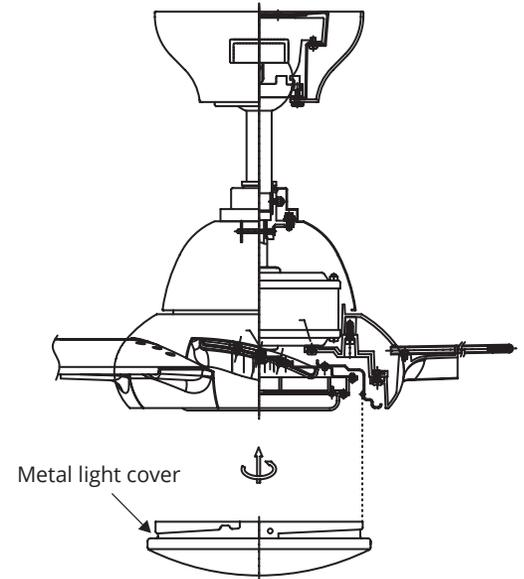

FIGURE 21
5. If installing the optional metal light cover, make sure it is securely tightened. (Fig. 21)
NOTE: Add metal light cover if you do not need lighting function or prefer a different aesthetic. (Fig. 21)